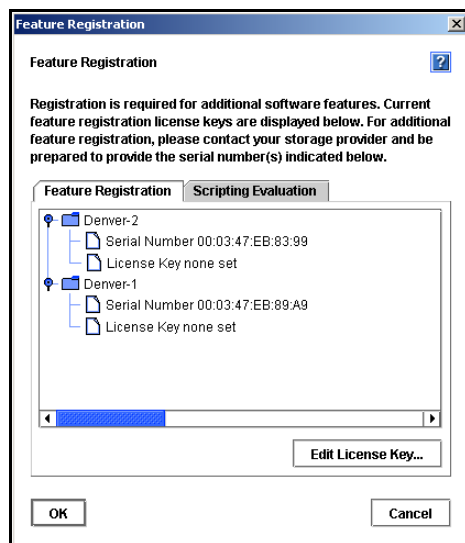

Figure 215. Opening the Feature Registration Window
3. From the Tasks menu, select Feature Registration. The Feature Registration window opens, shown in Figure 215. Listed are all the SSMs in that management group.